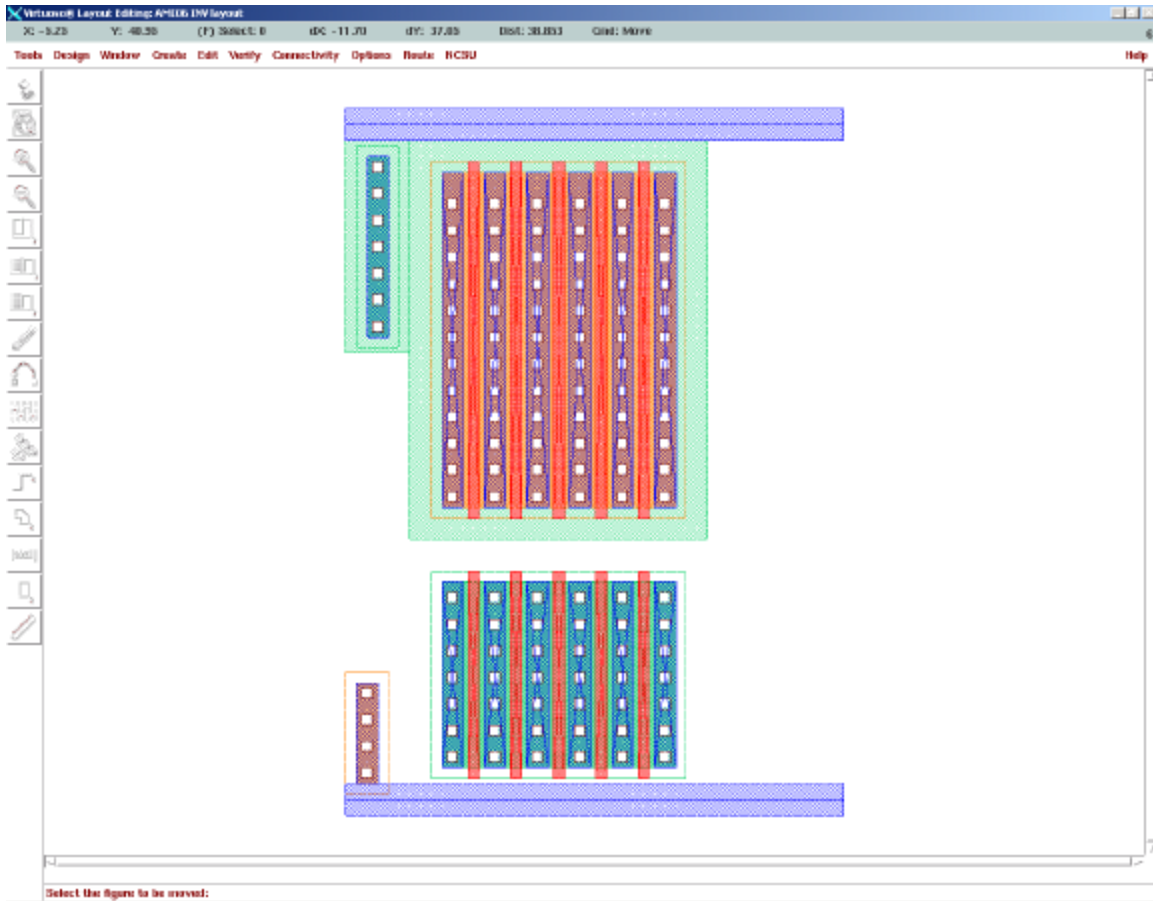

Figure 76: Placement of the NMOS and PMOS Transistors.
2. Stamp it down like in Figure 76. (The top left corner of the transistor is at x=3.6 and y=38.10).
4. Stamp it down like in Figure 76. (The top left corner of the transistor is at x=4.86 and y=13.8).